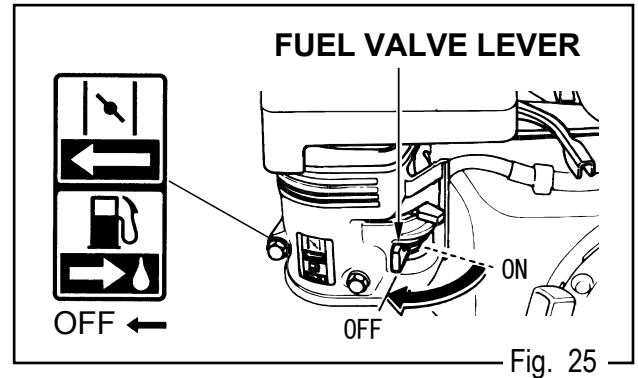

Fig. 25
- After having stopped, close the fuel cock. (Fig. 25)